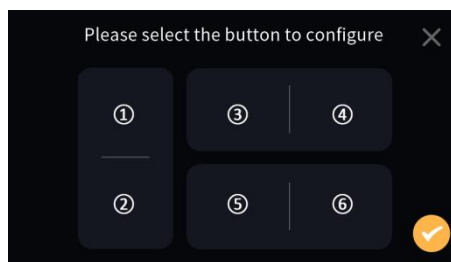

图 2.3.18
2.For relative dimming and brightness dimming function, the button configuration is shown as Fig.2.3.18, you can select ①② or ③④ or ⑤⑥. There is distinction for the shortcut operation between short and long operation, short press the button ①/③/⑤ to turn on the lamp, and long press to brighter the brightness. Short press the button ②/④/⑥ to turn off the lamp, and long press to darker the brightness.
6.For curtain function, the button configuration is shown as Fig.2.3.18, you can select ①② or ③④ or ⑤⑥. There is distinction for the shortcut operation between short and long operation, long press the button ①/③/⑤ to open the curtain, long press the button ②/④/⑥ to close the curtain; short press the buttons all to stop the curtain running.